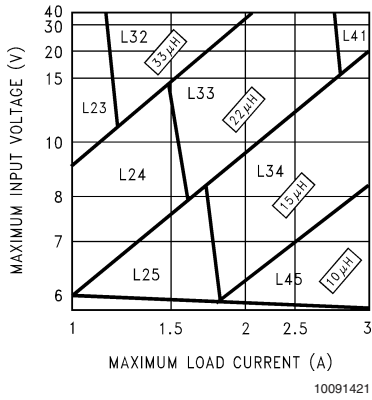
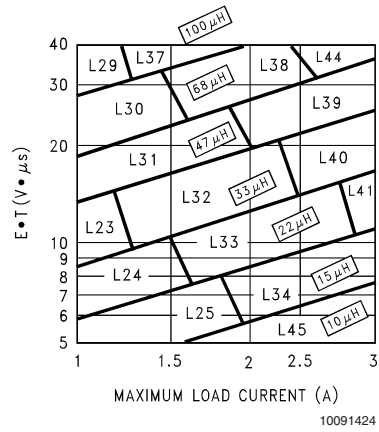

FIGURE 3. LM2676-3.3
FIGURE 6. LM2676-ADJ
Step 3: Determine the inductor required by using one of the four nomographs, *Figure 3* through *Figure 6*. Table 1 provides a specific manufacturer and part number for the inductor.
Step 5: Determine an input capacitor from Table 4 for fixed output voltage applications. Use Table 2 to find the specific capacitor type. For adjustable output circuits select a capacitor from Table 2 with a sufficient working voltage (WV) rating greater than $V_{in\ max}$, and an rms current rating greater than one-half the maximum load current (2 or more capacitors in parallel may be required).
Step 3: Use the nomograph for the 3.3V device, *Figure 3*. The intersection of the 16V horizontal line ($V_{in\ max}$) and the 2.5A vertical line ($I_{load\ max}$) indicates that L33, a 22 μ H inductor, is required.
Step 3: To use the nomograph for the adjustable device, *Figure 6*, requires a calculation of the inductor Volt \cdot microsecond constant ($E \cdot T$ expressed in $V \cdot \mu S$) from the following formula:
Using *Figure 6*, the intersection of $27V \cdot \mu s$ horizontally and the $2A$ vertical line ($I_{load} \max$) indicates that L38, a $68\mu H$ inductor, should be used.
Figure 6, selects an inductance of $22\mu H$ or less, Table 6 does not provide an output capacitor solution. With these conditions the number of output capacitors required for stable operation becomes impractical. It is recommended to use either a $33\mu H$ or $47\mu H$ inductor and the output capacitors from Table 6.